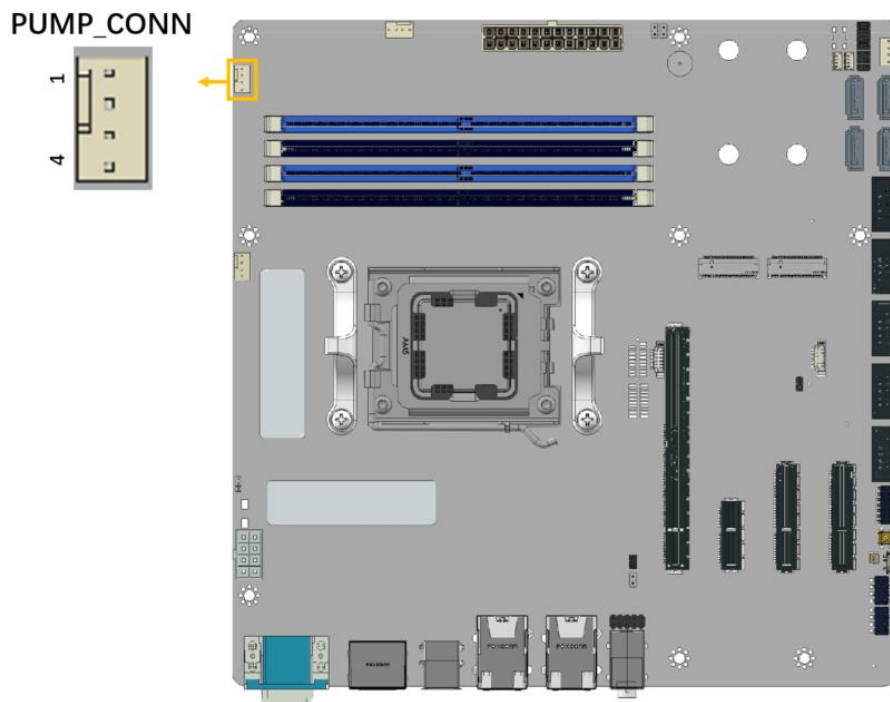

Figure 4-9: Pump Connector Location
- CN Location:** See **Figure 4-9**